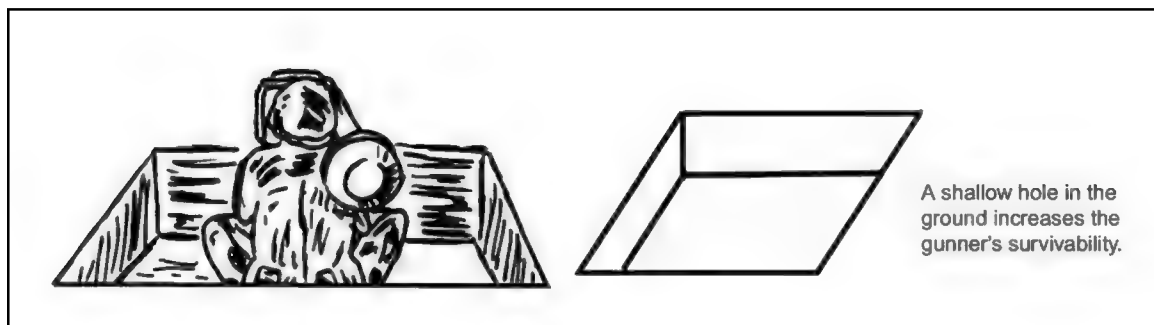

Figure 4-9. Hasty fighting position.
b. The hasty fighting position is constructed for expansion to afford the gunner and the assistant gunner/ammunition handler, if assigned, cover and concealment. This fighting position is based on the gunner firing from the sitting position, which is the preferred firing position. This position affords the gunner a low silhouette, and a steady and comfortable position while maintaining the ability to engage targets in his sector (Figure 4-9).